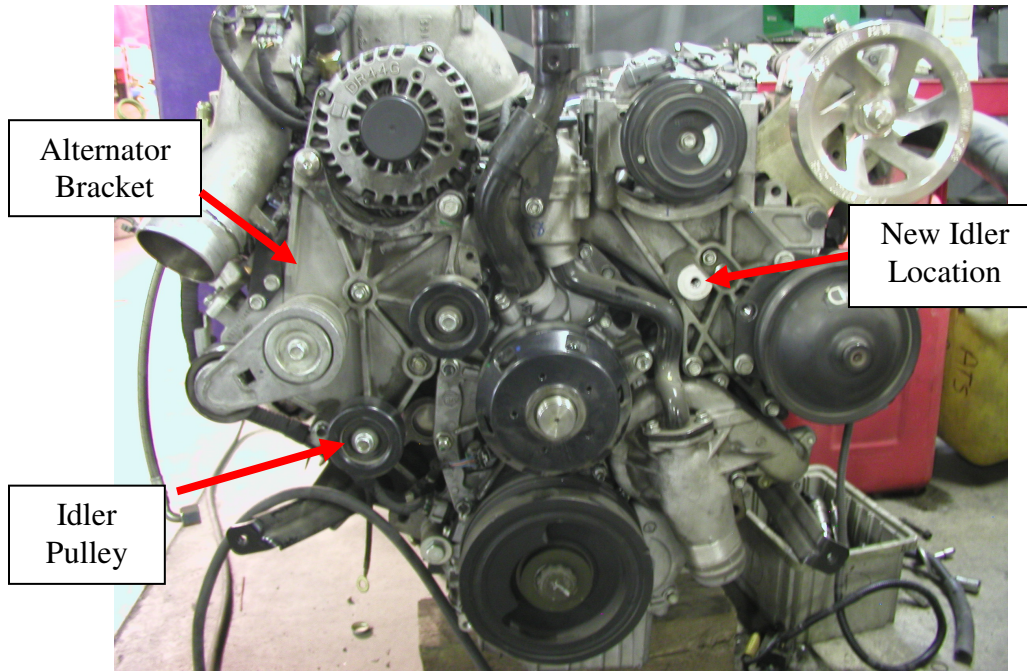

Figure 2: Relocate Idler Pulley
4. Remove the idler pulley shown in figure 2. Note: the engine shown is not a 2001-2004 model, but the idler pulley locations are accurate.
5. Reinstall the idler pulley in the new location shown in figure 2.